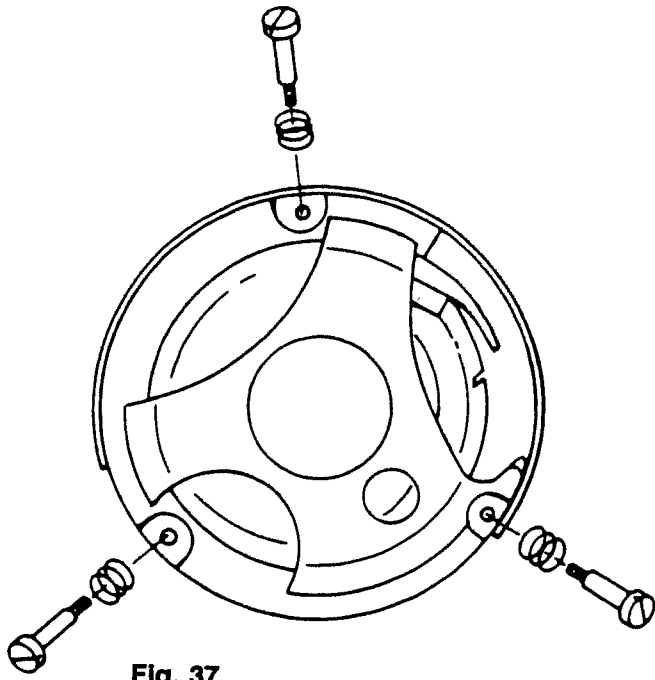

Fig. 37
- Take out the three screws with springs from behind (fig. 37).
- Fasten the sewing hook gib from behind with three screws with springs (fig. 37).